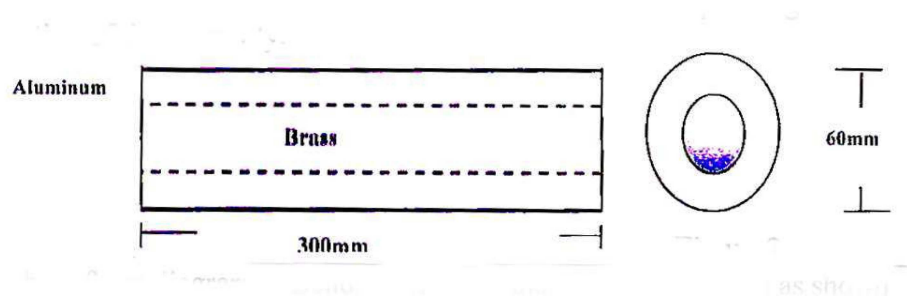

Fig. 4
- (b) An axial compressive force  $300 \text{ kN}$  is applied to the assembly shown in Fig. 4 by means of rigid end plates. The diameter of Brass core is  $20 \text{ mm}$  and outside diameter of aluminium tube is  $60 \text{ mm}$ . Determine : [8]